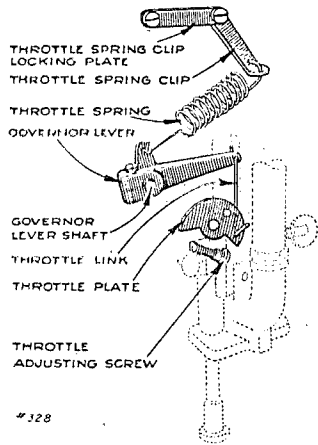

Fig. 9.
48. **Speed Adjustment.** Normal motor speed 1750 R. P. M. To change motor speed, change tension of throttle spring by moving throttle spring clip. More tension on throttle spring increases speed, less tension reduces speed. (See figure 9.)
49. **Resetting Governor Lever.** If governor lever has been loosened on its' shaft it is reset as follows: (See Fig. 9). With carburetor
50. The carburetor used on your Model "S" Motor is shown in Fig. 9 and Fig. 10. As received from the factory it is properly adjusted. However if it has been tampered with, it can be adjusted over again as described below.
shown in (Figure 9), and the other end hooked thru' the small hole in the long end of the governor lever. The throttle spring clip is held to the crankcase under the throttle spring clip locking plate. The throttle spring must have the coiled end hooked into the throttle spring clip and the other end hooked into the eye of the cotter pin in the governor lever:
54. **Idling Adjustment.** The idling speed can be adjusted by the throttle adjusting screw shown in (Figure 9). By screwing the adjusting screw clockwise will increase the idling speed, counter-clockwise will decrease the idling speed.